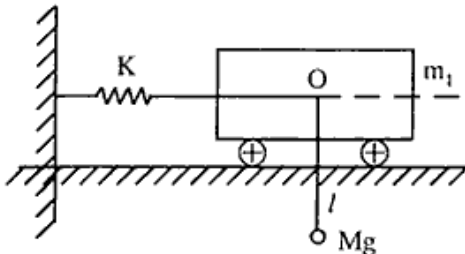

Figure 2
6. Derive an expression for the natural frequencies and amplitudes ratios for the system shown in fig.2 below, for small displacement in the plane of the paper. The pendulum rod is stiff and pivoted at point 'O'.